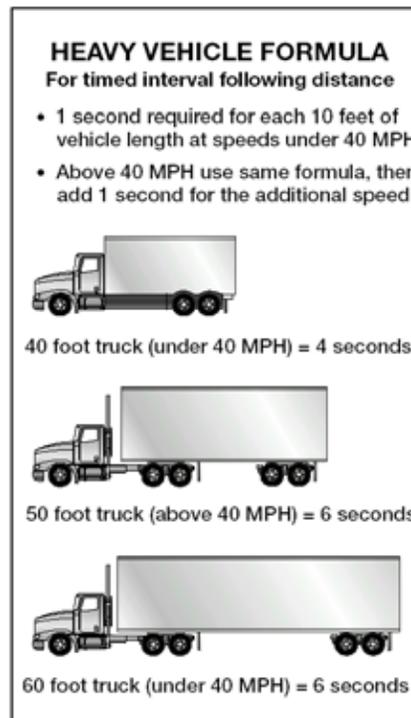

Figure 2.12
**How Much Space?** How much space should you keep in front of you? One good rule says you need at least 1 second for each 10 feet of vehicle length at speeds below 40 mph. At greater speeds, you must add 1 second for safety. For example, if you are driving a 40-foot vehicle, you should leave 4 seconds between you and the vehicle ahead. In a 60-foot rig, you’ll need 6 seconds. Over 40 mph, you’d need 5 seconds for a 40-foot vehicle and 7 seconds for a 60-foot vehicle. See Figure 2.12.